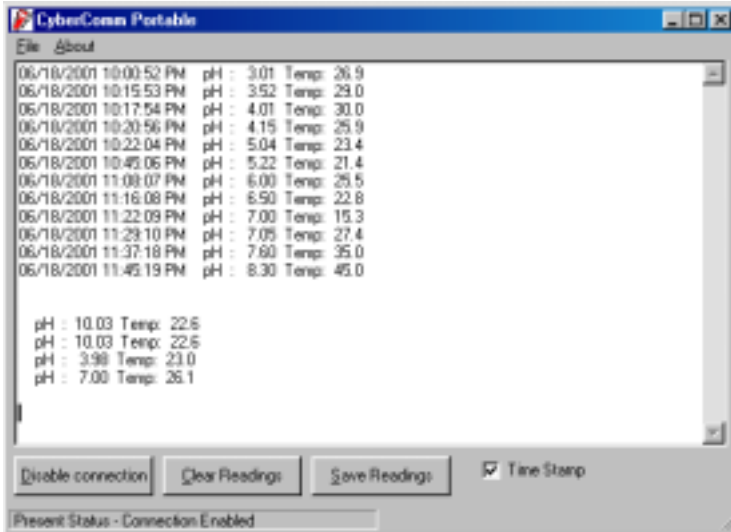

Figure 55 - A set of data print in CyberComm Portable DAS
4. With the CyberScan pH 100 meter switched on, press the PRINT key to send data to the computer. See Figure 55 below.